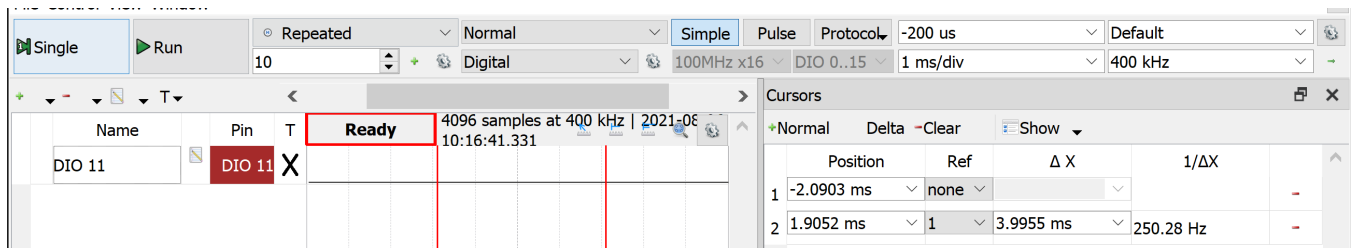

Figure 26: Measurement Tool
**Measurement:** The measurement tool can measure time and frequency using cursors. Press view, cursors to bring up the measurement tool. You will need to add a normal cursor and a delta cursor. To add a normal cursor, select the green + next to Normal. Drag the cursor to the first point you want to measure. To add a delta cursor, select the green + next to Delta. Drag the cursor to the second point you want to measure. The cursor tool will show you the position of both cursors. You can look at the time between the two cursors and the corresponding frequency, as shown in Figure 26.